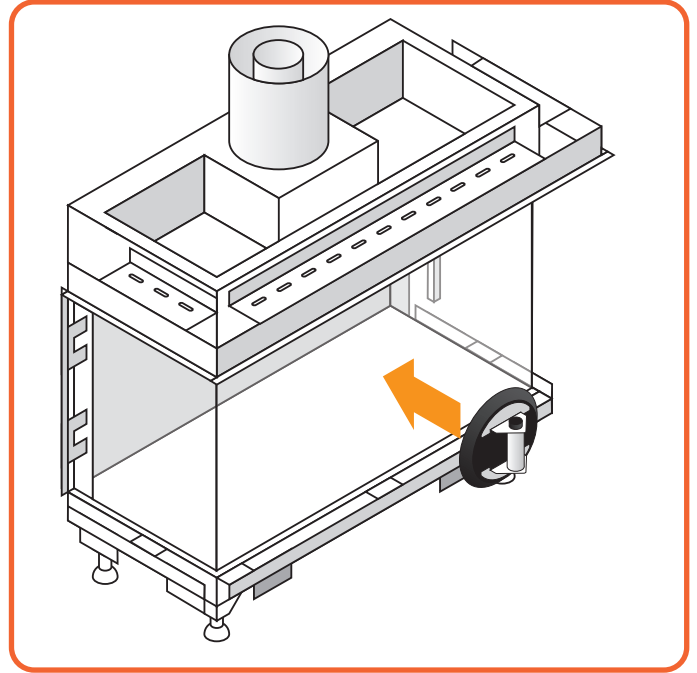

Figure 9.3 | Put on suction cup
- Remove the ropes holding the glass (See Figure 9.3)